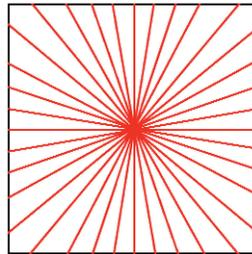

Figure 2.8 Template for determining the average radius should look something like this.
Step 1. Construct a template out of 2 ft by 2 ft plywood. Mark the center with two lines at right angles (90°). Next, mark a line from the center-point to the edge every 10° (total of 360° in a circle) (Fig. 2.8).